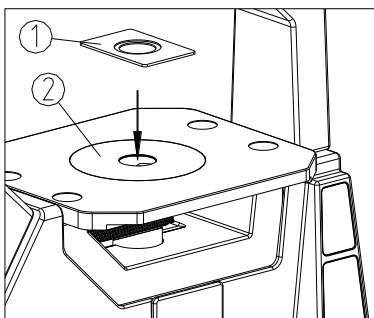

Fig. 12
(1) Place the $\phi 35$ mm Petri dish holder ① (attached) on the circular central stage ②, and put the $\phi 35$ mm Petri dish in its center. (See Fig.12)
(2) Slip the whole holder to move the Petri dish.